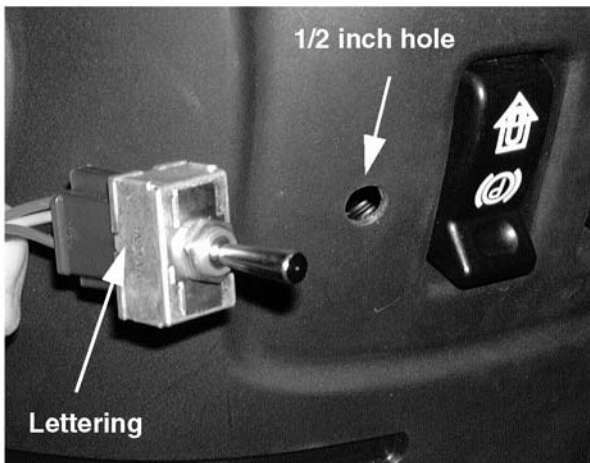

Figure 8-48.
10. Position the switch so the lettering stamped on the side of the switch is facing toward the left. See Figure 8-48.